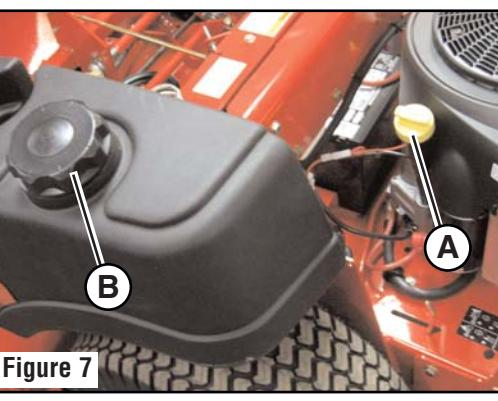

Figure 7
- Remove the oil fill cap (A, Figure 7). Wipe the dipstick, replace the cap, then remove and check the oil level. The oil level should be between the 'Full' and 'Add' marks on the dipstick.
- Remove the fuel cap (B, Figure 7).